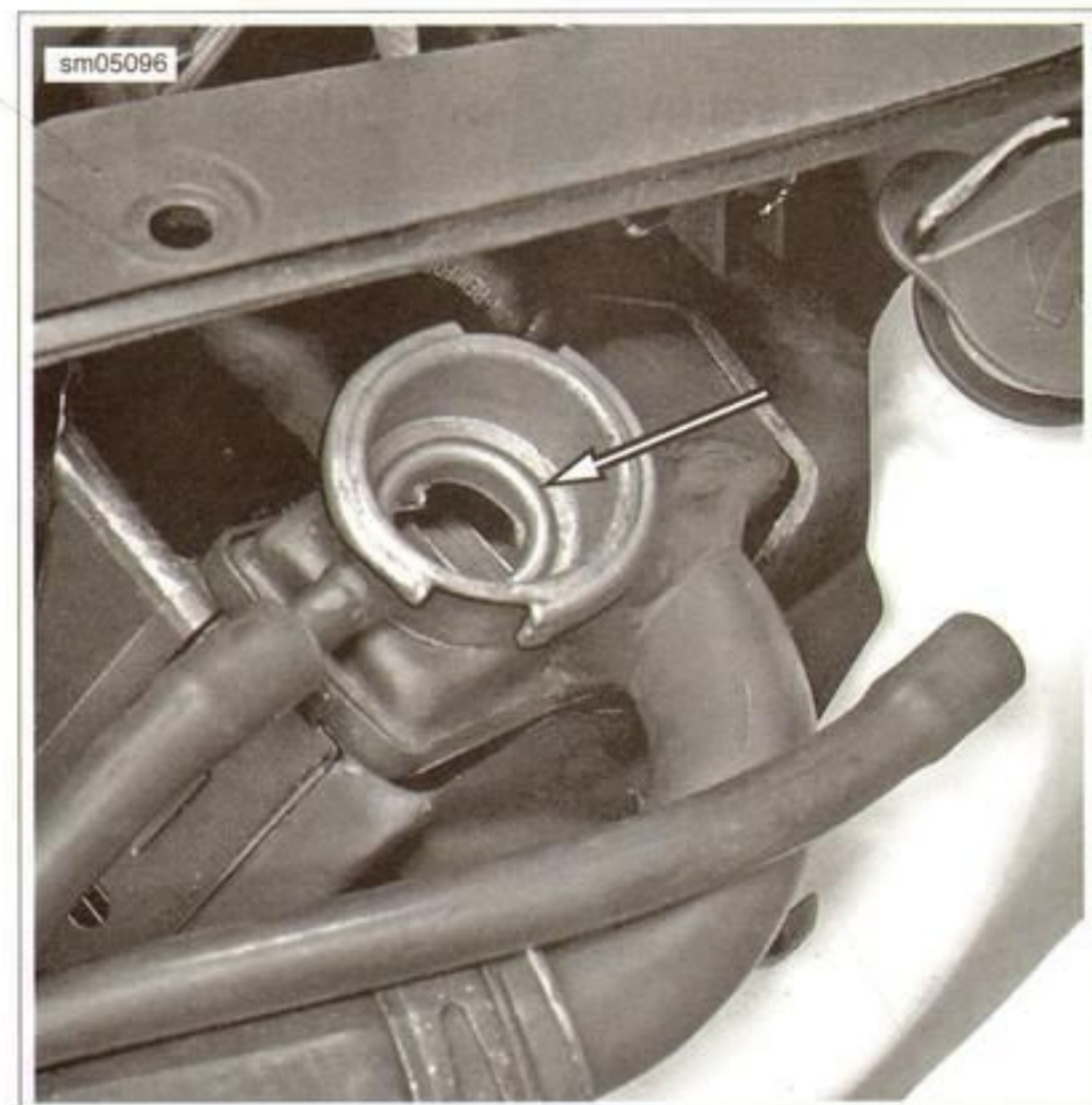

Figure 1-55. Radiator Filler Neck
2. See Figure 1-55. Remove the radiator cap and wrap the filler neck with a shop towel to contain spilled coolant.